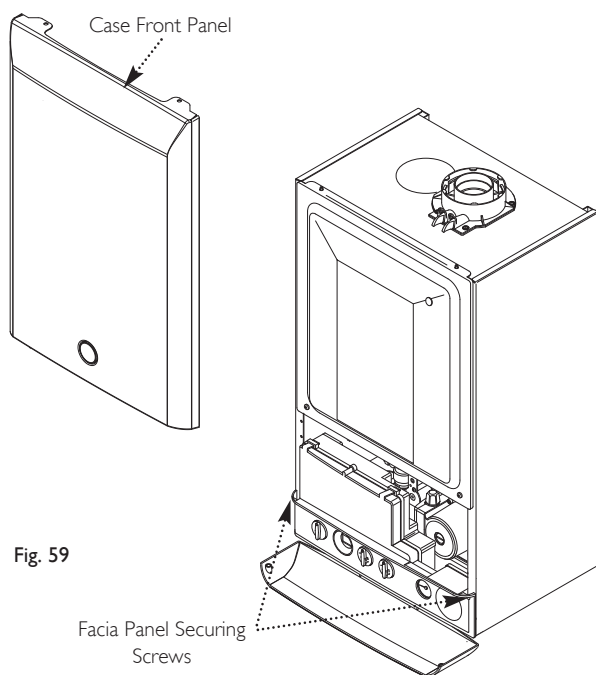

Fig. 59
3. Slacken the screws securing the fascia panel. Lift the outercase panel so that its securing tabs are clear of the fascia. Remove the panel, allowing the fascia to hinge down (Fig. 59).